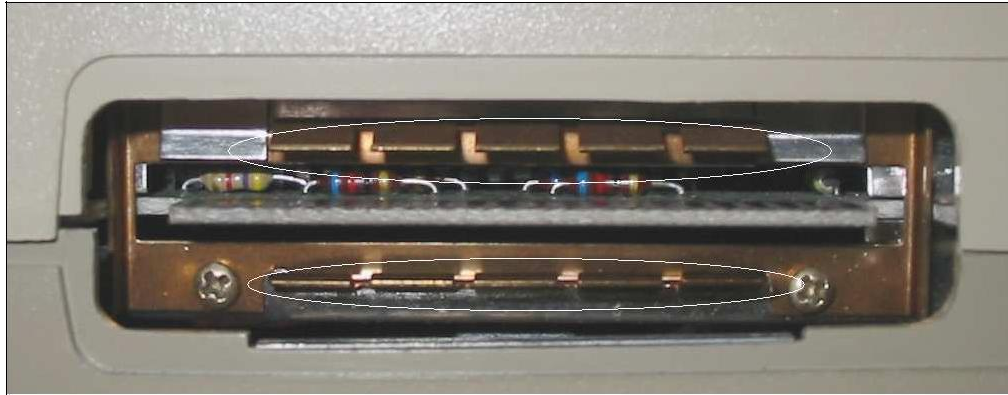

Figure 2 - Copper Bushings
3. There are two copper bushings in the port that may get in the way of the nanoPEB-SIO's connector as shown in figure 2. They may be gently bent out of the way so that the Controller Card can be firmly seated.